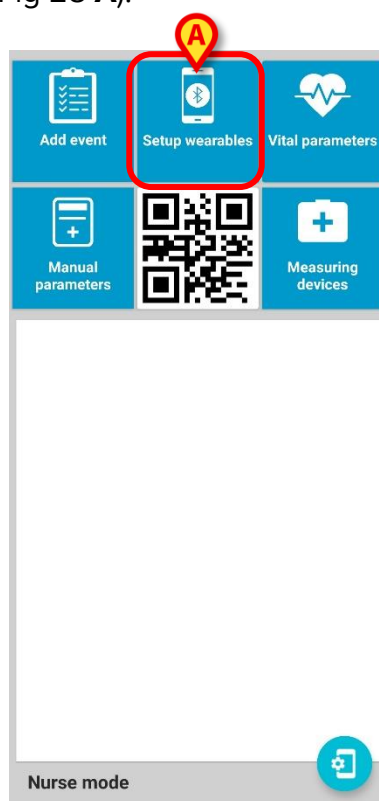

Fig 28
- Open the Digistat Gateway application in “Nurse mode” on the mobile device. Tap the **Setup Wearable** button (Fig 28 **A**).